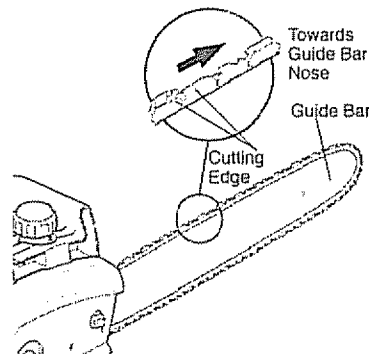

Figure 4 - Saw Chain Direction
6. Place chain around drive sprocket, along top groove of guide bar, and around guide bar nose. *Note:* Make sure cutting edges of chain are facing in right direction. Position chain so cutting edges on top of guide bar face guide bar nose (see Figure 4 and indicator on side cover of saw)